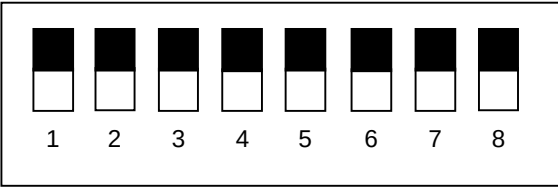

Figure 6.10.2 DIP switches (Being set for Standard setting)
(2) Perform as the procedure shown below.
(3) Set the DIP switch No.4 as shown in Figure 6.10.2.